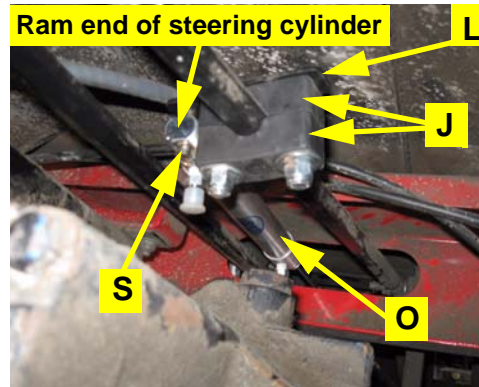

Figure 6b: Mounted steering cylinder
- d. Attach the prepared steering cylinder from **step 6a** to the ram and rod brackets (Figure 6b). Use the provided hardware **S** to secure the steering cylinder. (Figures 6b and 6c).